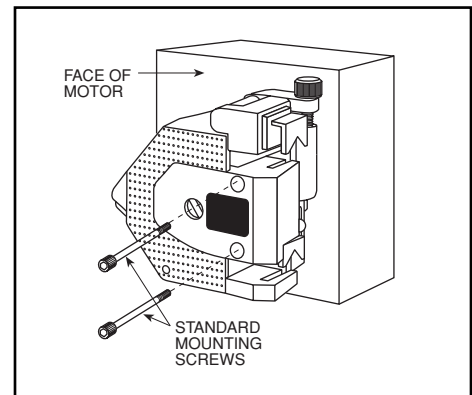

Figure 3-4. Aligning the Rotor Shaft
5. Refer to Figure 3-4. With the pump and motor aligned, insert the mounting screws through the mounting holes in the pump, until they make contact with the threaded mounting holes in the face of the motor.